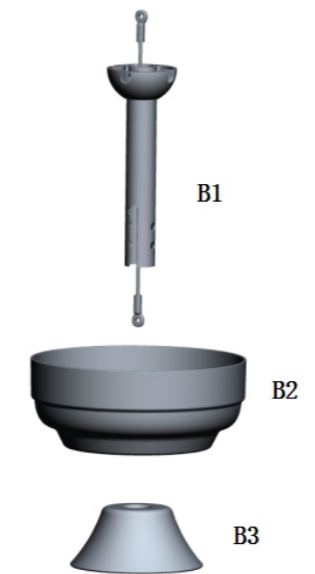

Fig 2.1
- 2.1 Assemble downrod as pictured in Fig.2.1. (Please select the proper length of rod for your ceiling.)